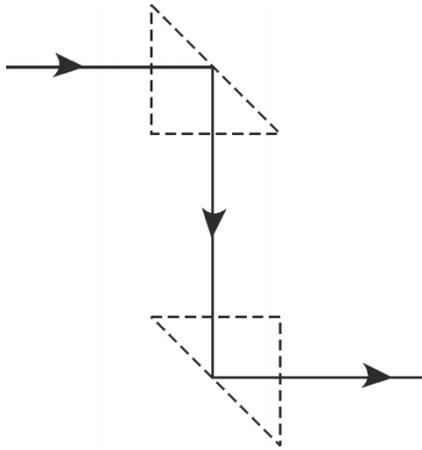

Figure 9 *Total Internal Reflection Set-up*
3. Move two right-angle prisms to a new location on the paper. Arrange them to produce “periscope action.” This action requires, for example, that a horizontal beam that enters at one level be deflected downward 90° and exits horizontally at a different level, as shown in Figures 9 and 10. Here the dashed triangles indicate the locations of the two prisms. Use index cards to locate the beam through the prism arrangement.